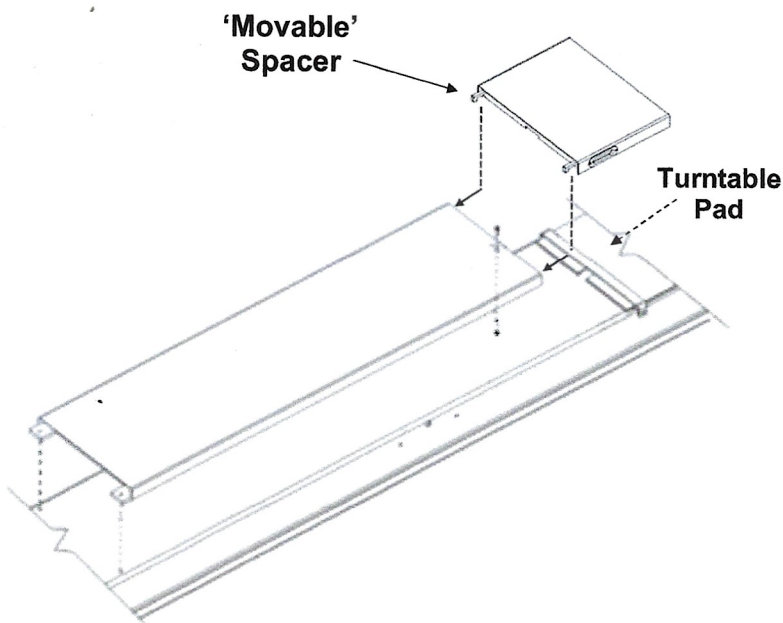

Fig. 5
- 6) Position Movable Spacer (#4) on Runway behind Turntable Pad. Insert the hooks of Movable Spacer into the holes of the Long Spacer - Fig. 5.